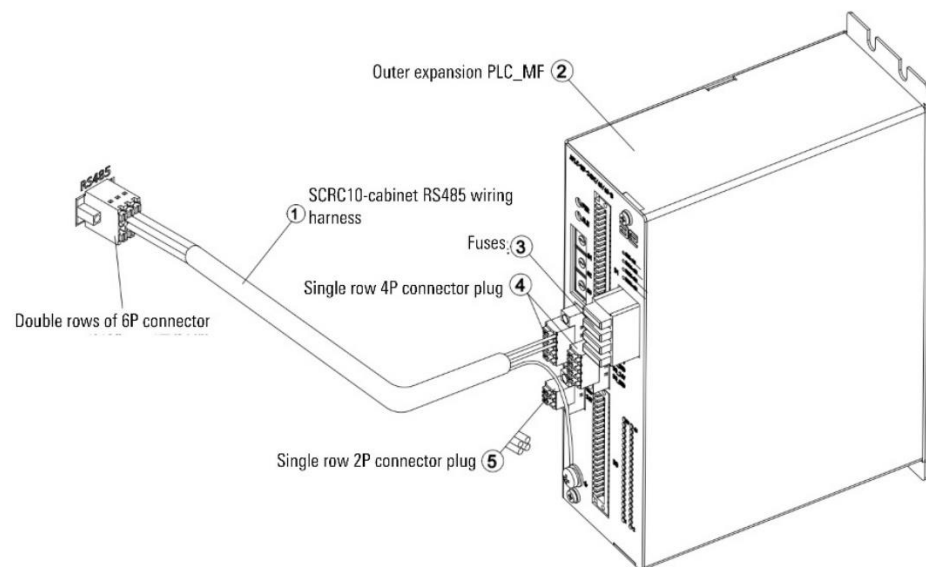

Figure 17-1 Connect to external expansion PLC\_MF
Step1. Connect one end of the SCRC10-cabinet RS485 wiring harness with double rows of 6P connectors to the RS485 interface on the cabinet, connect the other end of the SCRC10-cabinet RS485 wiring harness to the outer expansion PLC\_MF, the shield is connected to the ground, and the other two signal lines are connected to the corresponding X1 " + ", " - ", refer to Figure 17-1.